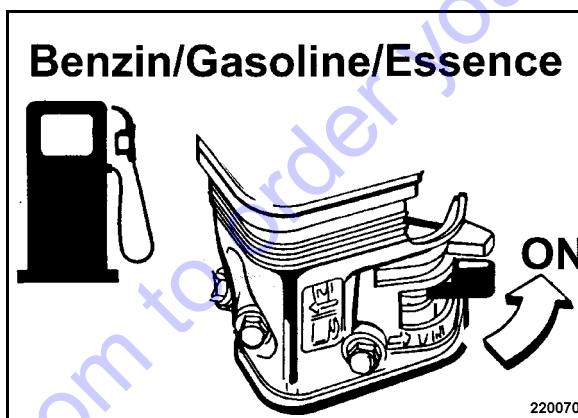

Fig. 11
- Open the fuel cock (Fig. 11) by turning in direction of arrow to the end stop.